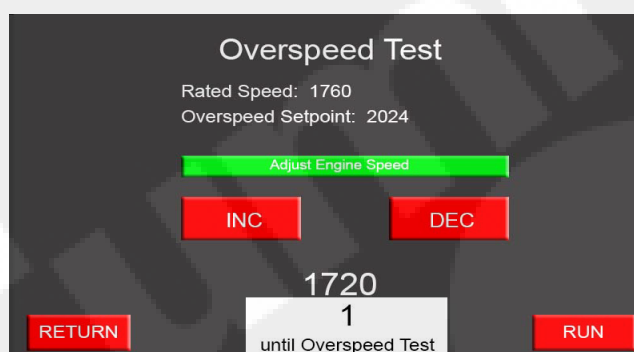
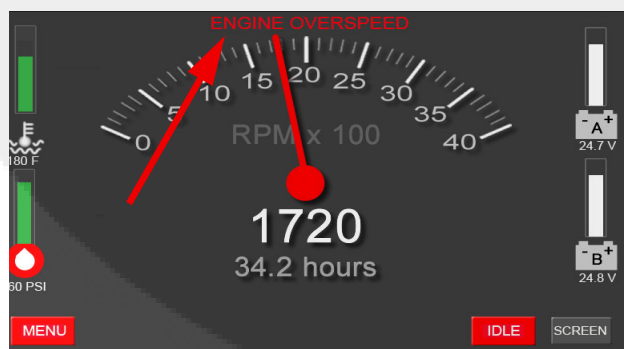

Figure 4-12 Overspeed Timer
Figure 4-13 Overspeed Test Timer Expired (Sample)
5. When the timer expires (shown in Figure 4-12), “ENGINE OVERSPEED” written in red will flash at the top of the FPDP screen (shown in Figure 4-13).